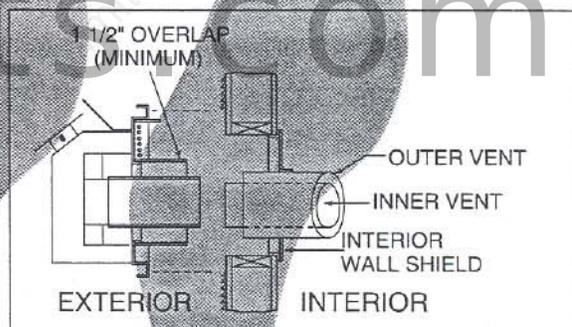

Figure 13
The last section of vent may require cutting, depending upon wall thickness and appliance location. The cap should overlap the vent sections by at least 1 1/2 inches. See *Figure 13*.
e. Termination. Vent termination must not be recessed in the wall. Siding may be brought to the edge of the cap base. Install the cap as shown in *Figure 13*. Cap pipe sections should overlap the vent pipe by 1 1/2 inches. Caulk outside edges of cap.